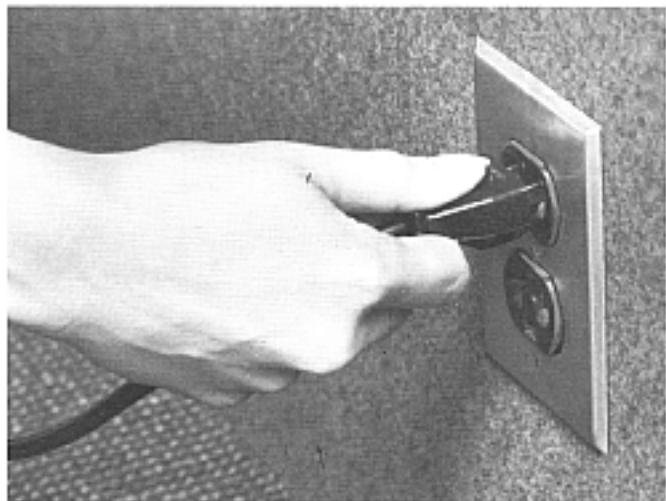

Figure 26
1. Unplug the projector! See Figure 26.